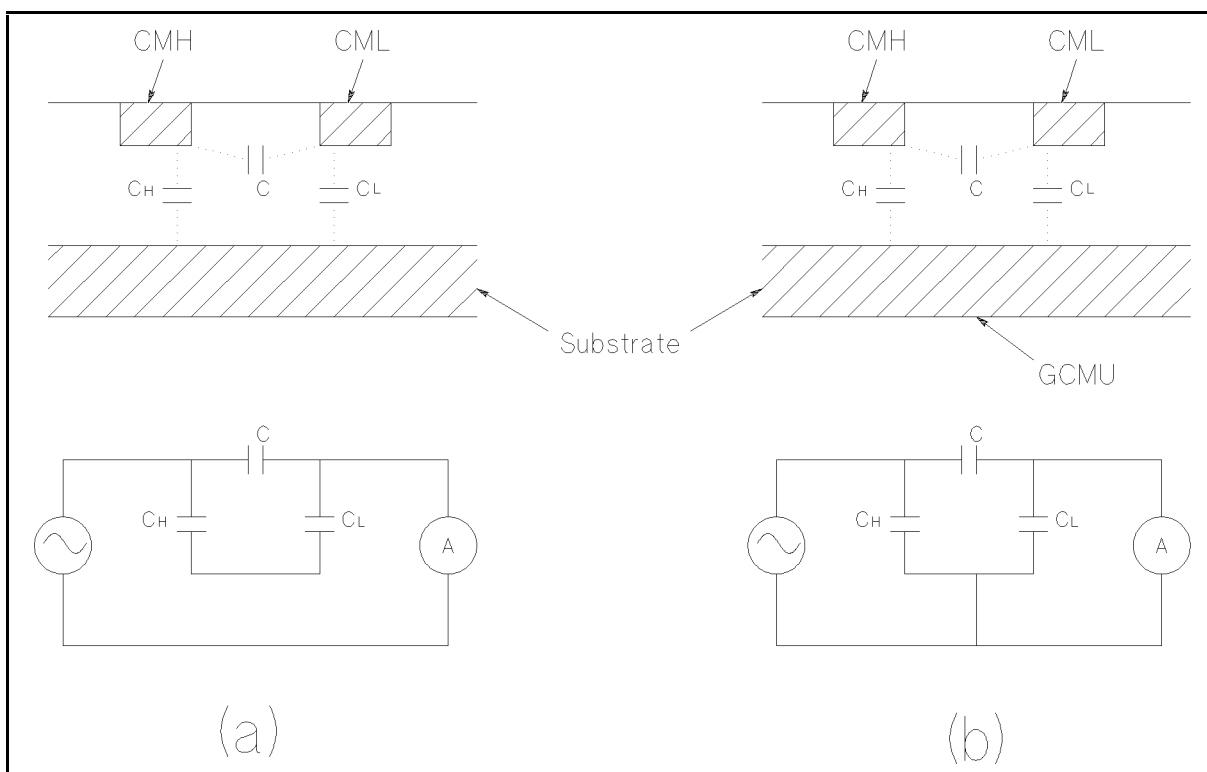

Figure 5-6. Example of GCMU Use
As Figure 5-6 shows, you can effectively eliminate stray capacitance (C_H and C_L) by connecting the GCMU to the substrate of the device under test (C).